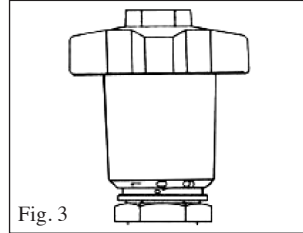

Fig. 3
5. With no arrows visible, the inner scale set at 0 on the indicator line aligned with the 0 on the outer scale, the valve is closed. Refer to Fig. 3.
The valve operates from closed (Fig. 3) to fully open by a counterclockwise rotation of the red handwheel. Use five (5) 380° turns for the 2-1/2" and 3" valves, six (6) turns for the 4", 5", and 6" valves, 12 turns for the 8" and 10" valves and 14 turns for the 12" valve. Two scales indicate the position of the valve.